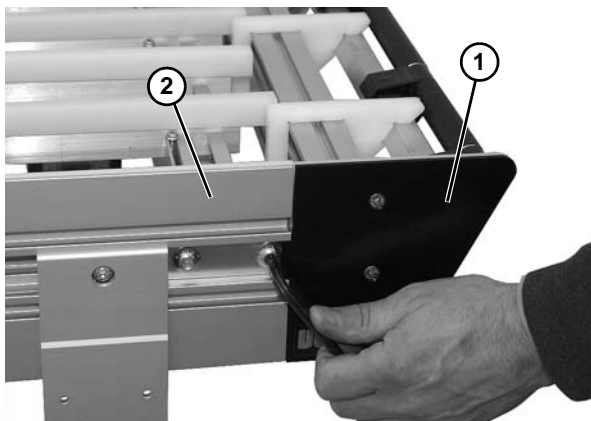

Figure 100
When reinstalling the idler spindle assembly, the idler tail assembly (Figure 100, item 1) should mate flush with the conveyor frame (Figure 100, item 2).